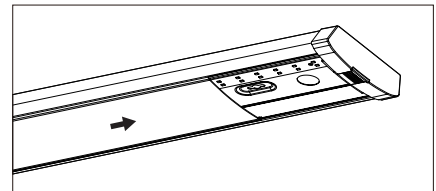

Figure 11
- To install diffuser (B), start at one end of the lamp base, and insert the diffuser slot onto the edge of the lamp base. Carefully squeeze diffuser to engage opposite side with the lamp base. Continue this action down the length of the diffuser until fully installed onto the lamp base. (Figure 11).